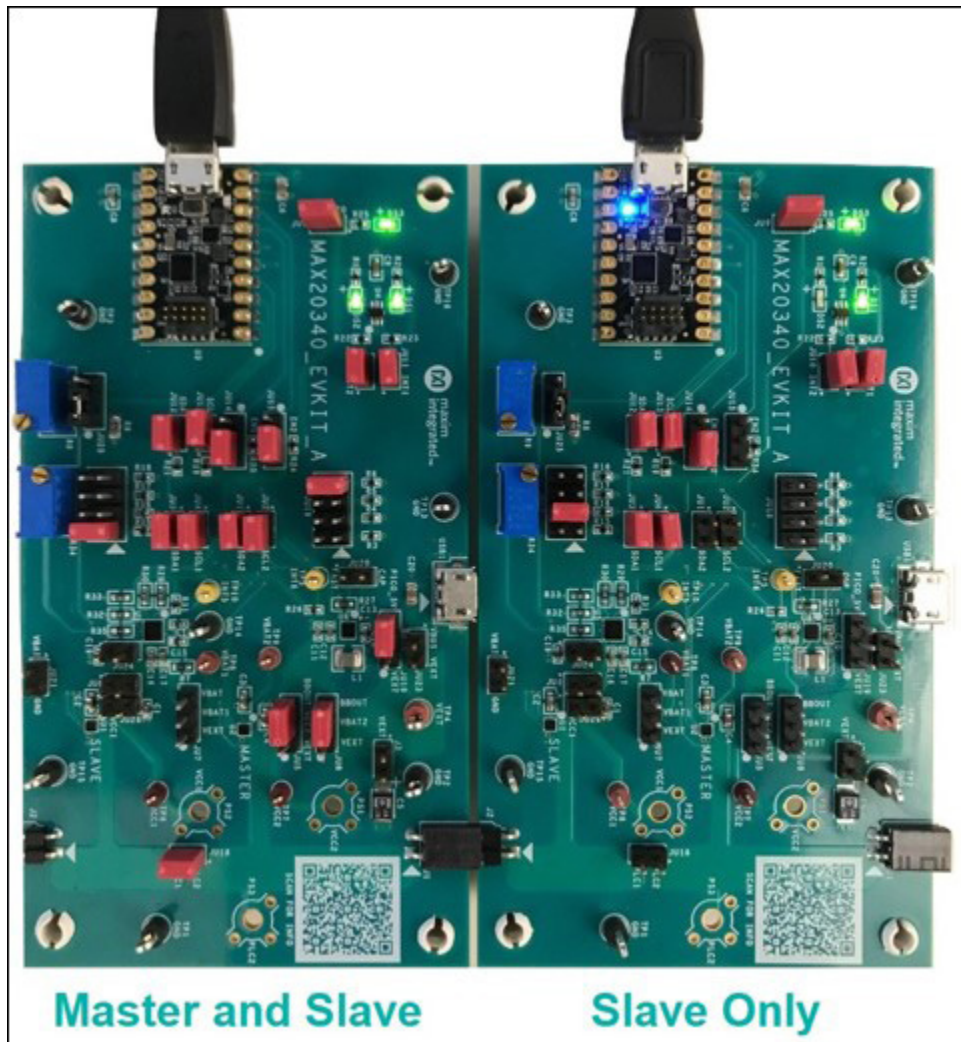

Figure 11. Two MAX20340 EV Kit Boards Setup for Dual Slave Mode.
- 8) If the setup steps were followed correctly, the two boards should be connected to the PC using two USB cables and set up as shown in Figure 11.